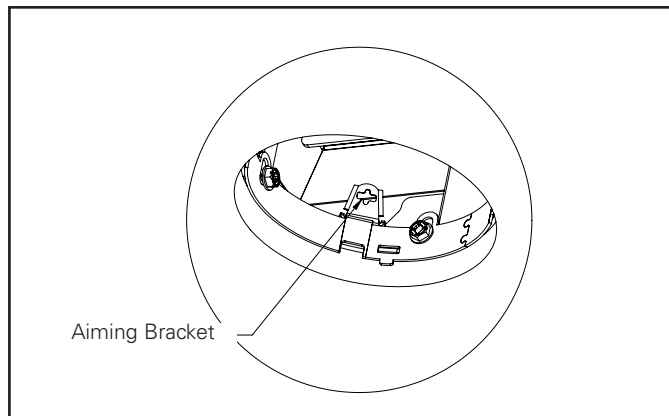

Figure 13B.
2. Turn the mechanism to the desired position using the aiming bracket and screwdriver (Figure 13B). Tighten wing screw.